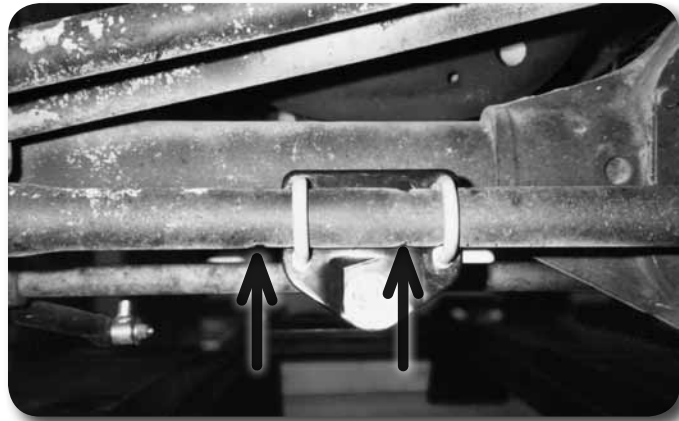

Figure 1
3. The tie rod has two sets of locating grooves in which the OE stabilizer bracket u-bolts mount. Ensure that the bracket is adjusted to the set of grooves closest to the center of the vehicle **Figure 1**. Torque the U-bolts to 20 ft-lbs.